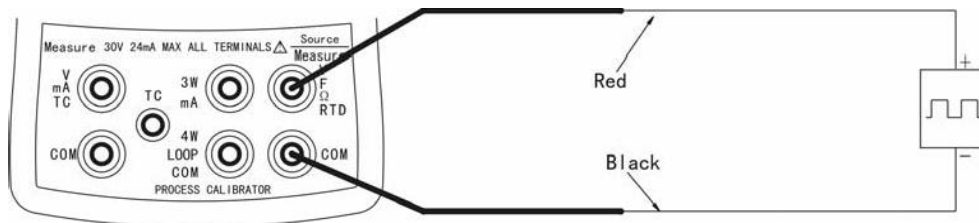

Figure5-6 Measuring Frequency
- (1) Press  until the lower display shows "MEASURE".
- (2) Press  to select frequency until the display shows "Hz".
- (3) Connect the test leads as shown in Figure5-6.